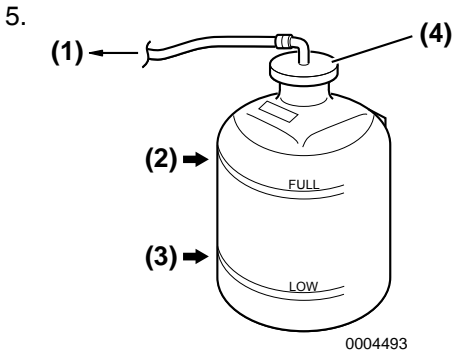

Figure 20
Check the coolant level in the coolant recovery tank. The level should be at the FULL mark (**Figure 20, (2)**). Add coolant if necessary. **NOTICE: NEVER pour cold coolant into a hot engine.**
6. Remove coolant recovery tank cap (**Figure 20, (4)**) to add coolant if necessary. Do not add water.
8. Check the rubber hose (**Figure 20, (1)**) connecting the coolant recovery tank to the coolant tank / heat exchanger. Replace if damaged.